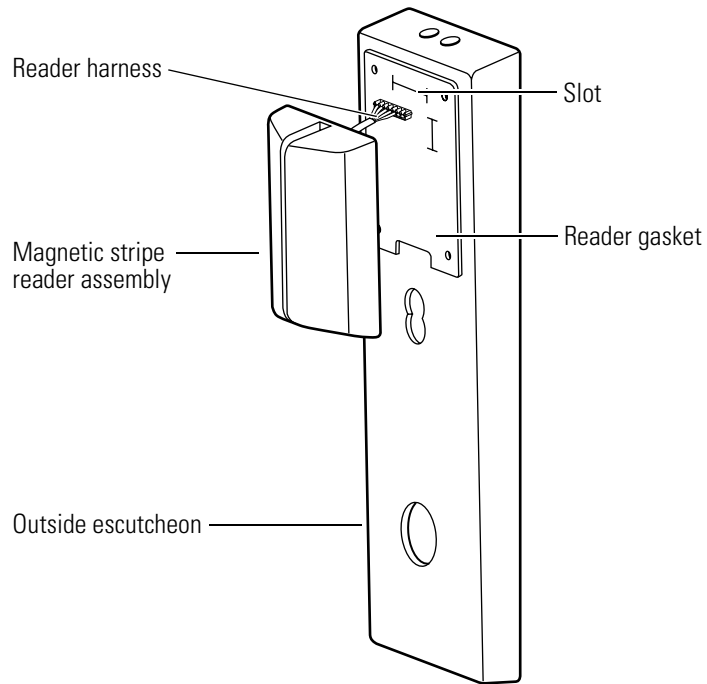

Figure 9.17 Positioning the magnetic stripe reader assembly
1. Orient the magnetic stripe reader assembly and insert the reader harness through the slot in the outside escutcheon. See Figure 9.17.